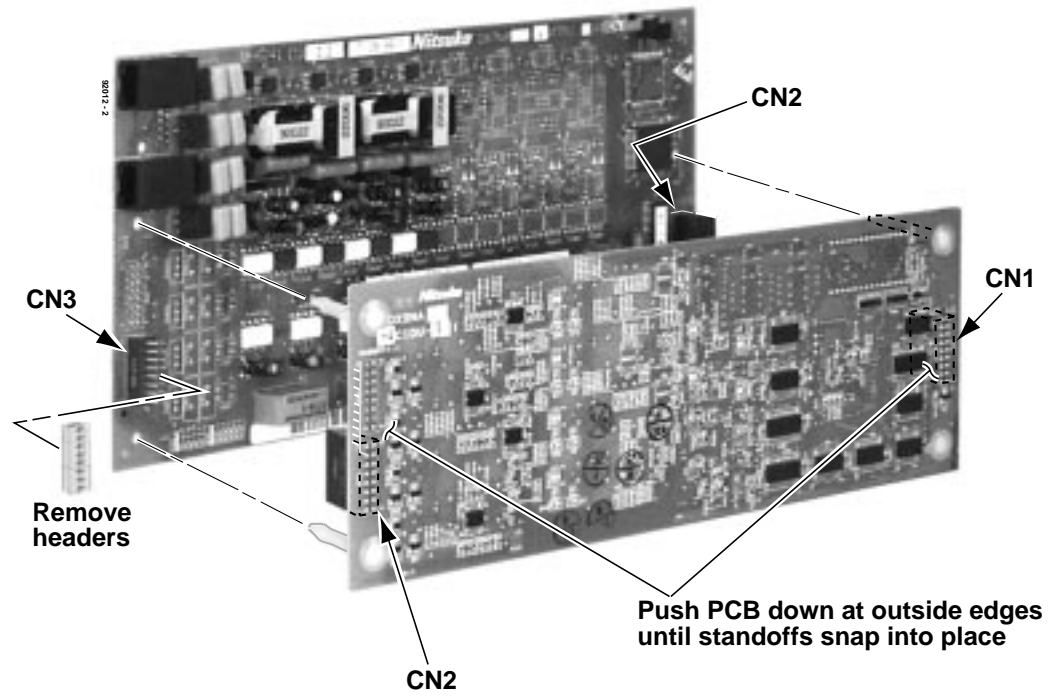

Figure 2-13 INSTALLING THE 4 CIRCUIT CALLER ID DAUGHTER BOARD
4 Circuit Caller ID Daughter Board (Figure 2-13)
3. Remove the headers from 4ATRU PCB connector CN3 and store in a safe place (see Figure 2-13).